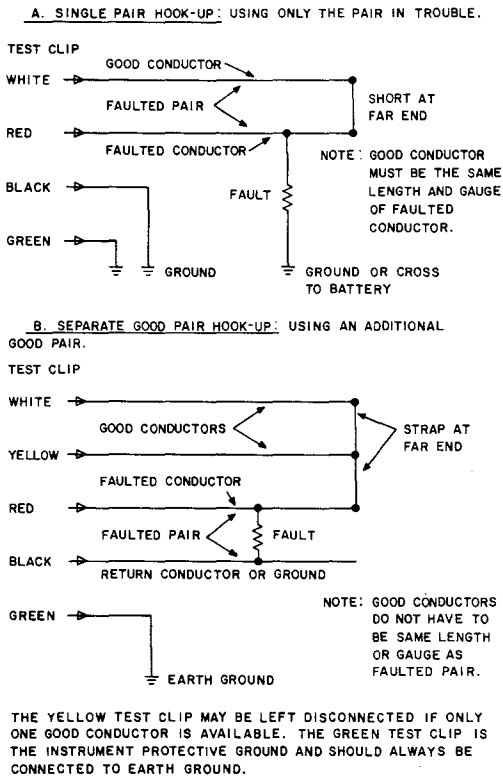

Fig. 6—Basic Hook-up
**3.07** There are two basic hook-ups; a single pair hook-up and a separate good pair hook-up (Fig. 6). The separate good pair hook-up allows a series fault (3.29) test to be performed and in some cases provides an improvement in accuracy when the fault is near the far-end strap.